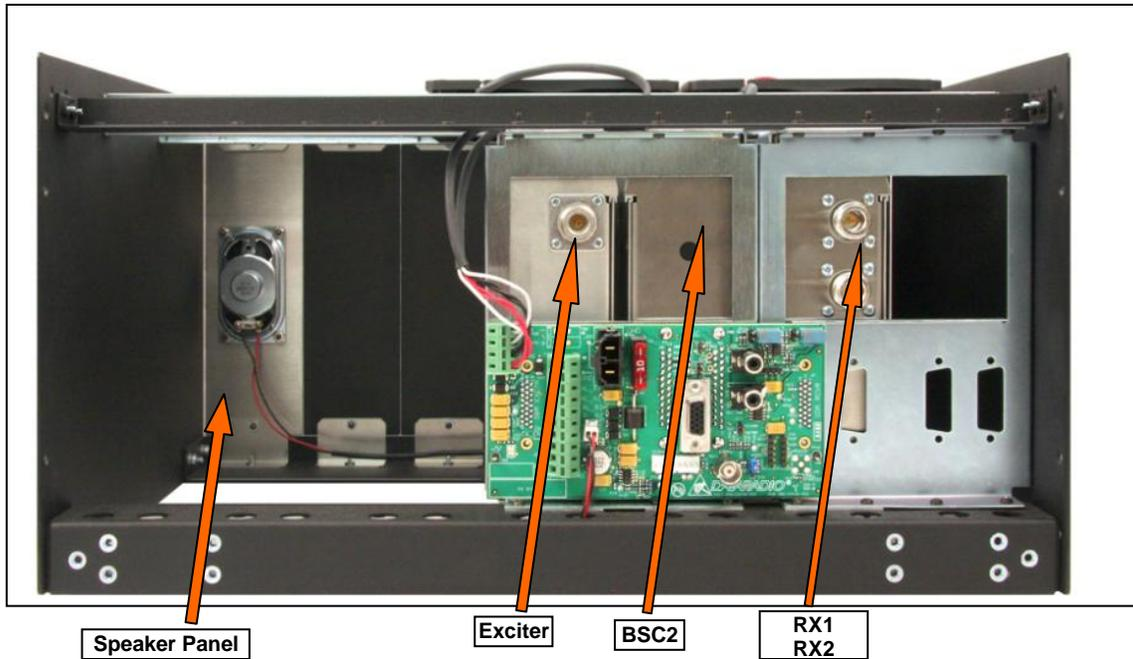

Figure 3 - Paragon4 unit rear view
The Crescend power amplifier receives its +13.8VDC power from the ICT DC power supply through a 10AWG DC power cable. In the standard configuration shown in Figure 3, there is no in-line fuse between the power supply and power amplifier, all the short-cct and foldback protection is done by the ICT power supply. In this configuration, the voltage drop through the power cable is minimize. Nonetheless, if required a DC power cable with an in-line fuse can be ordered from the factory.
- 2- Referring to Figure 3 for locating modules, terminate the RX-1 and RX-2 cable-ends at their respective rear position of the receiver module with N-type connectors.